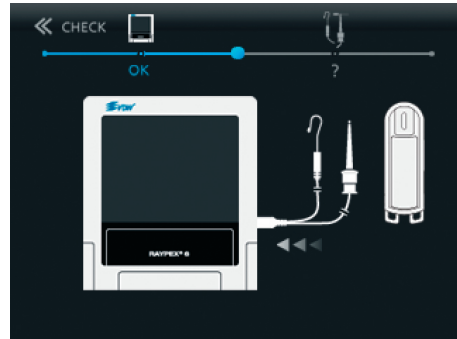

Fig. 32 Connect the measuring cable
- Connect the measuring cable to the device (Fig. 32).